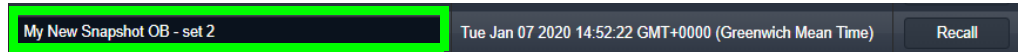

Figure 26: Enter New Snapshot Name
- 2 Enter a new name. (See Figure 26.)